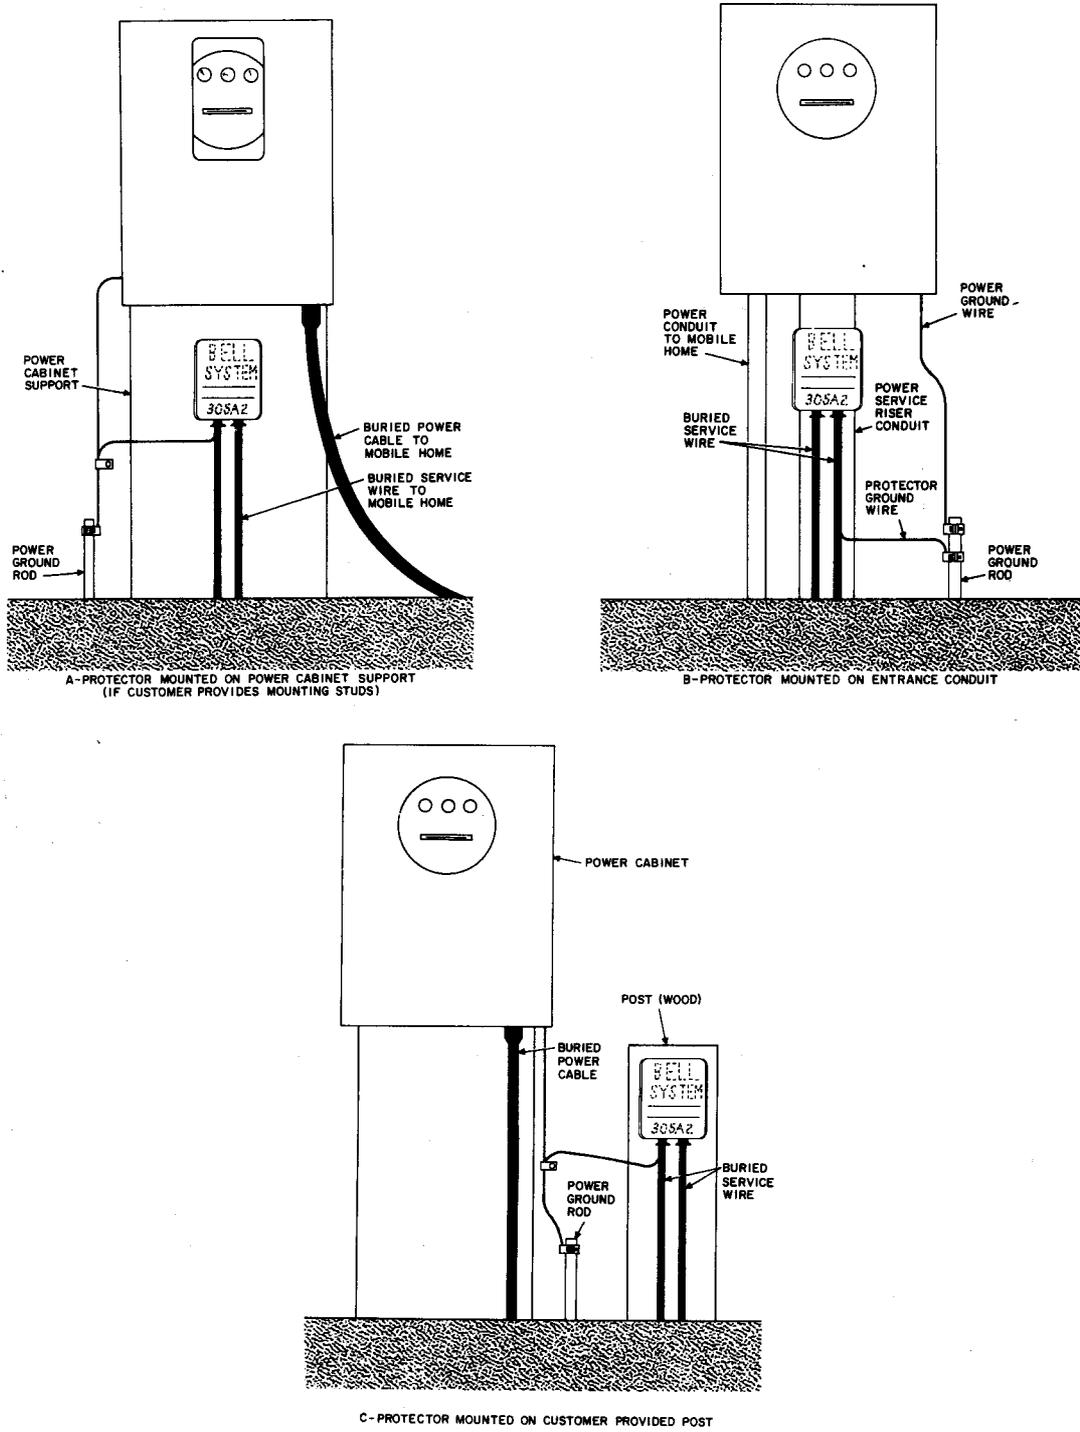

Fig. 7—Typical Protector Mounting Installations
**4.03** Refer to Table A for selection and installation of protector grounds. For a mobile home the best ground is usually the power ground system, since an acceptable water pipe ground usually does not exist. Connect the protector to a water pipe if it is serving as the power ground, to the power ground rod, power ground wire, or power service conduit. If the power is not multiground neutral (MGN), and is grounded to a ground rod, install a telephone ground rod and bond the two separate rods as described in 4.04. A typical installation of this type is shown in Fig. 3 and 4. If the power ground is not present or available, ground the protector to a driven ground rod or a metallic water pipe of which at least 10 feet is buried as shown in Fig. 5 and 6. Typical installations using the power ground are shown in Fig. 7. If power